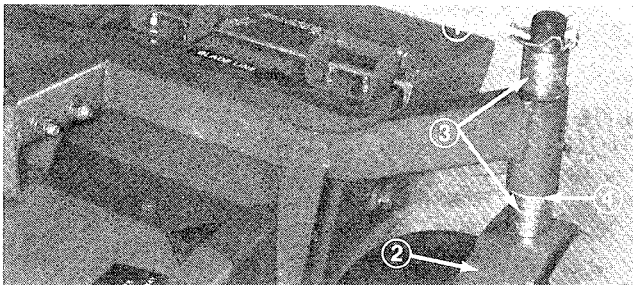

Figure 16
2. Squeeze back of wire and rotate wire on lynch pin. Pull pin out of caster spindle. Slide spacers onto the caster spindle to get desired height-of-cut (Fig. 16 and 17). Then slide washer (Fig. 16 and 17) onto spindle.
3. Push caster spindle through caster arm. Slide any remaining spacers onto spindle (Fig. 16 and 17). Install lynch pin to retain parts in place.